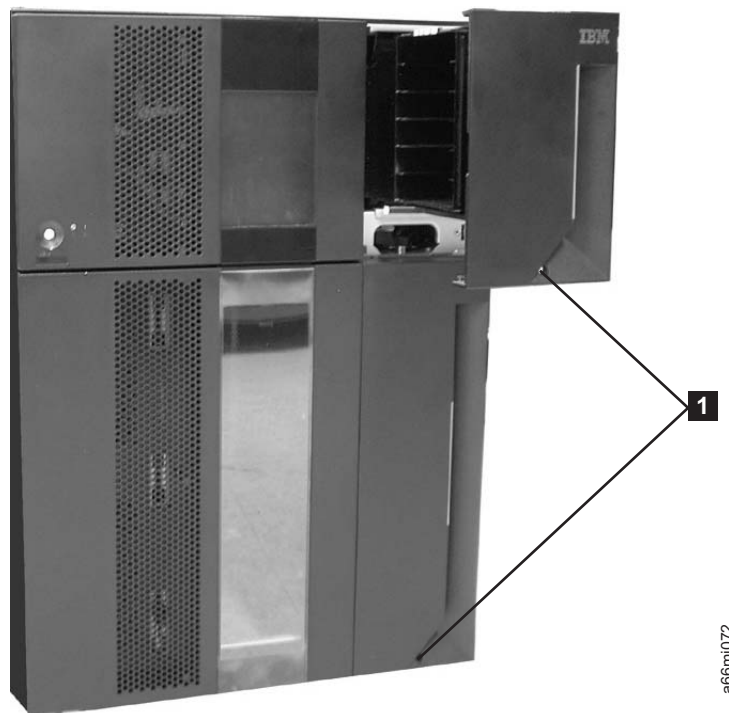

Figure 7-17. Access holes for manually unlocking I/O Station doors
There are 2 styles of I/O Station Lock mechanisms. The early style uses a T10 Torx wrench to rotate the lock mechanism. The new style has a large push-button type mechanism behind the hole (**1** in Figure 7-17) in the I/O station door.
1. Insert a T10 Torx wrench in the hole (**1** in Figure 7-17) located on the front of the I/O Station door of the library module you wish to open.
1. Insert any straight tool (screwdriver, Torx wrench, etc.) into the hole (**1** in Figure 7-17 on page 7-30) in the front cover of the I/O station.